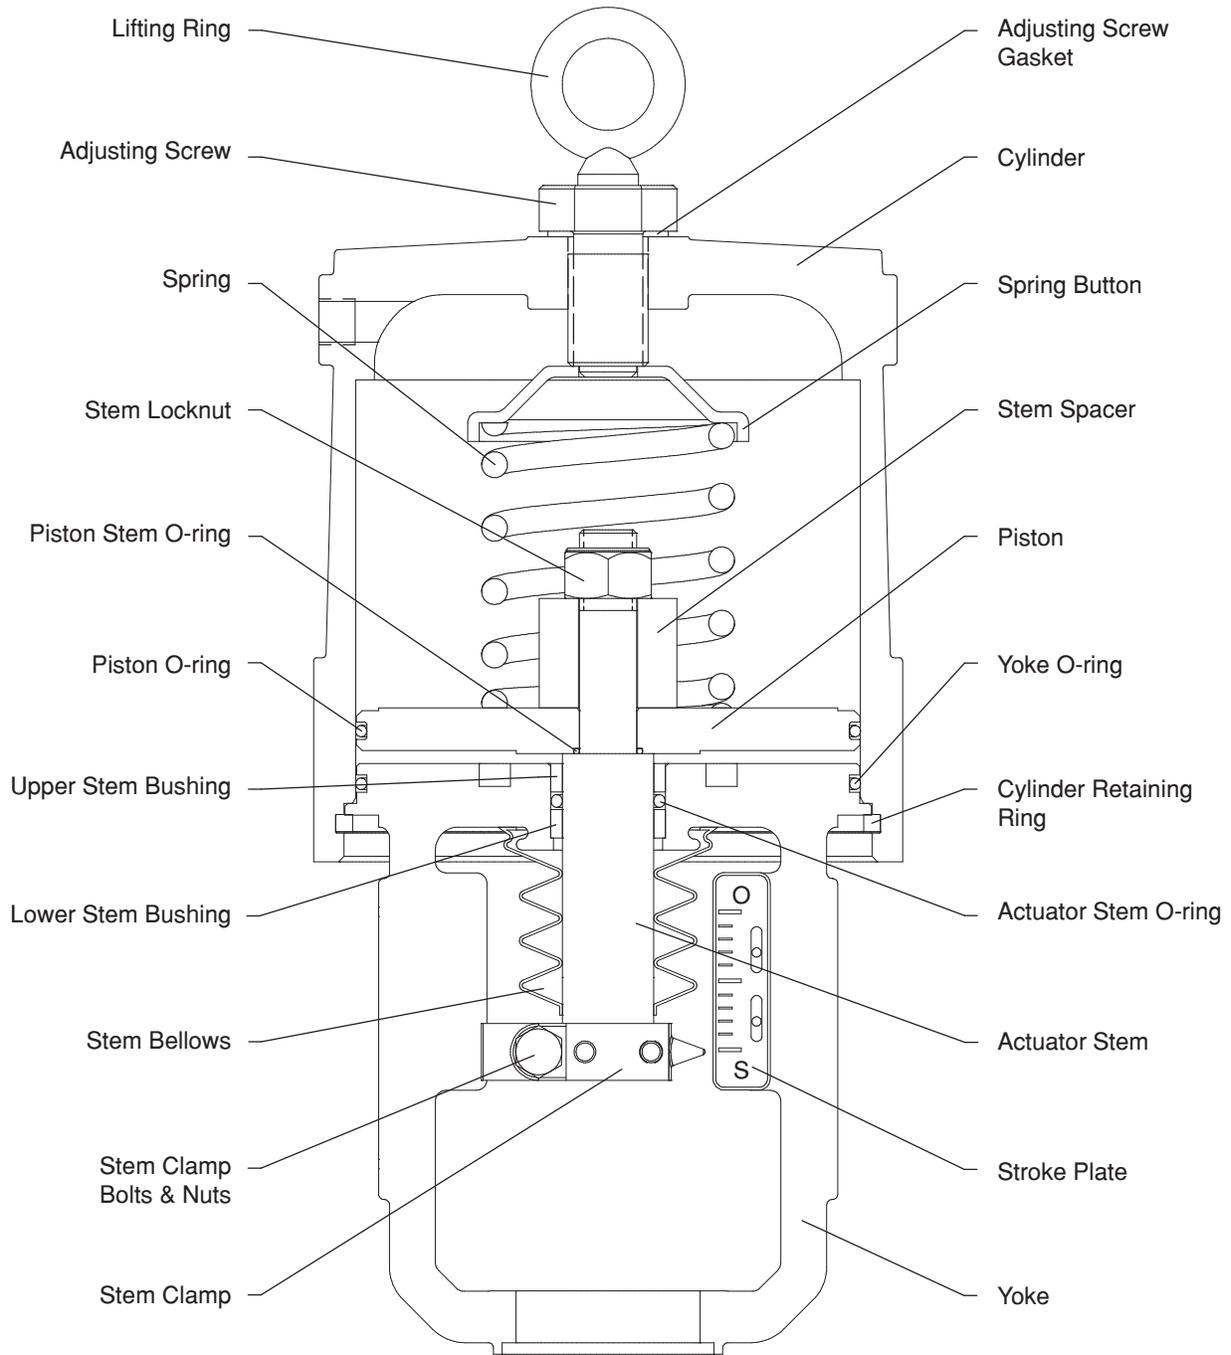

Figure 5 - Spring-Cylinder Actuator (Air-to-Open)
On normally closed valves, the actuator can be disassembled with the actuator yoke still connected to the valve. On normally open valves, the actuator must be removed from the valve before its disassembly. To disassemble the actuator, observe the Figures 5, 6 and 7 and proceed as follows:
- In the “air-to-open” configuration, remove the spring(s) and the spring button for cleaning and inspection (see Figure 5). Remove the locknut and slide the piston and the stem spacer out from the actuator stem. On actuators with dual springs the spring guide must be removed also.
To reassemble the actuator refer to the Figures 5, 6 and 7 and proceed as follows:
- If the bushings have been removed, lubricate the external side of the replacement bushings. Press the new lower stem bushing into the yoke until it touches the bottom shoulder. Press the upper stem bushing until it is aligned with the top of the yoke (see Figure 5 or 6).
- Reassemble the piston, the piston stem O-ring and the stem spacer in the actuator stem, according to the desired air action (see Figure 5 or 6). Replace